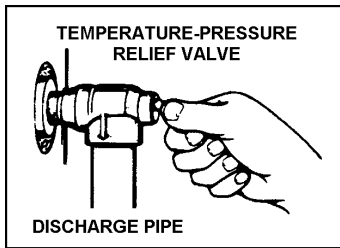

FIGURE 41.
When checking the temperature-pressure relief valve operation, make sure that (1) no one is in front of or around the outlet of the temperature-pressure relief valve discharge line, and (2) that the water discharge will not cause any property damage, as the water may be extremely hot, see Figure 41.